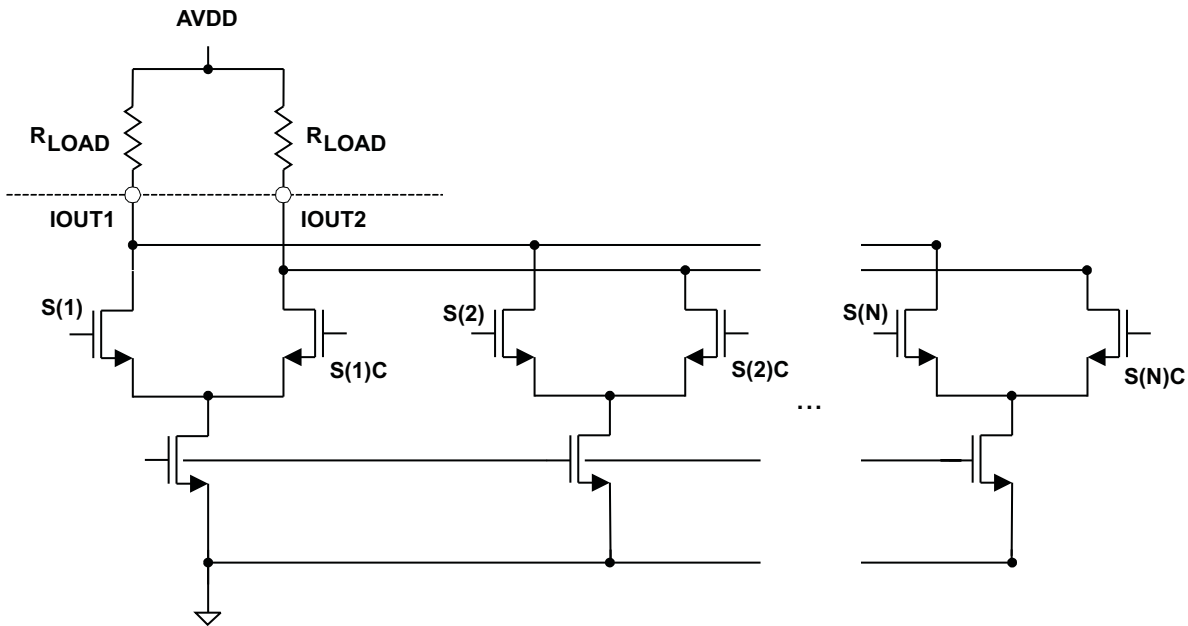

Figure 49. Equivalent Analog Current Output
**Figure 49** shows a simplified schematic of the current source array output with corresponding switches. Differential switches direct the current of each individual NMOS current source to either the positive output node IOUT1 or its complementary negative output node IOUT2. The output impedance is determined by the stack of the current sources and differential switches, and is typically >300 k $\Omega$  in parallel with an output capacitance of 5 pF.